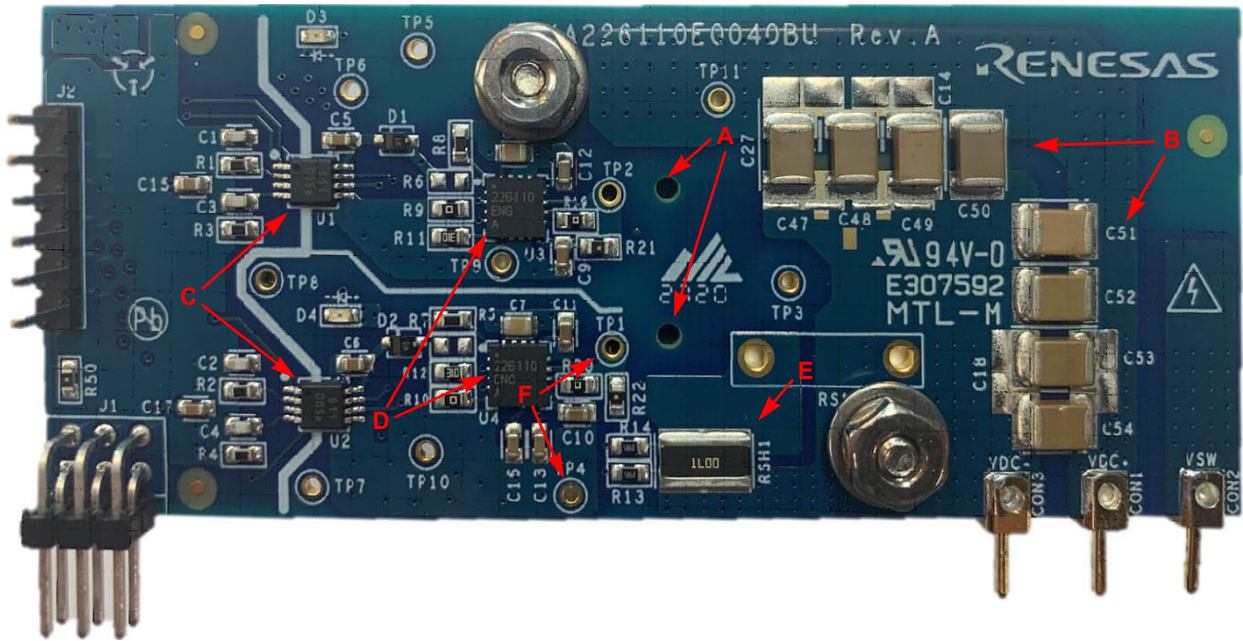

Figure 10. RTKA226110DE0040BU Top
1. Check position E (Figure 10) on the daughter board RTKA226110DE0040BU.
- d. Set the High Voltage (HV) DC supply voltage to 0V and ensure the output is OFF. Connect the HV supply to **CON2** and **CON6**.